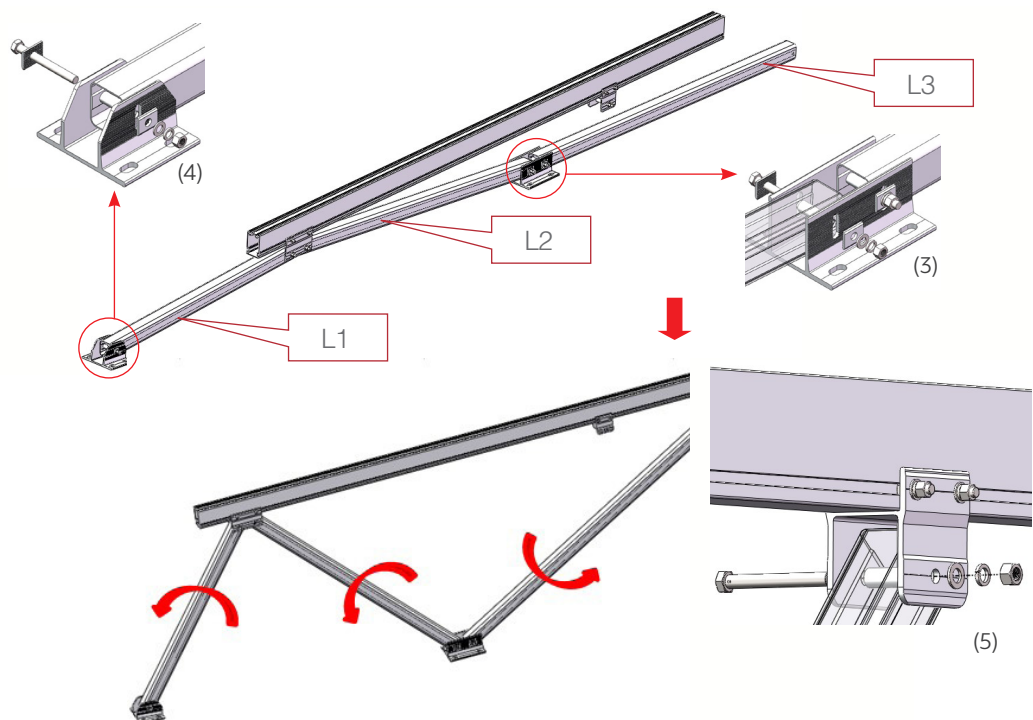

Figure 6
5.1.3 According to the engineering drawing, place different length Rectangular Tube 100*90 and T Base 200/280 by below steps, as shown in Figure 6.